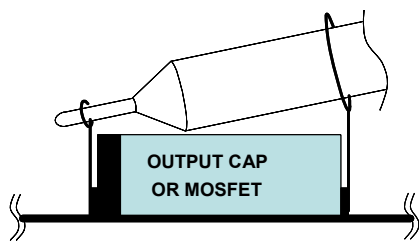

FIGURE 3. PROPER PROBE SET-UP TO MEASURE OUTPUT RIPPLE AND PHASE NODE RINGING
6. Use oscilloscope to observe output voltage ripple and Phase node ringing. For accurate measurement, refer to Figure 3 for proper test set-up.